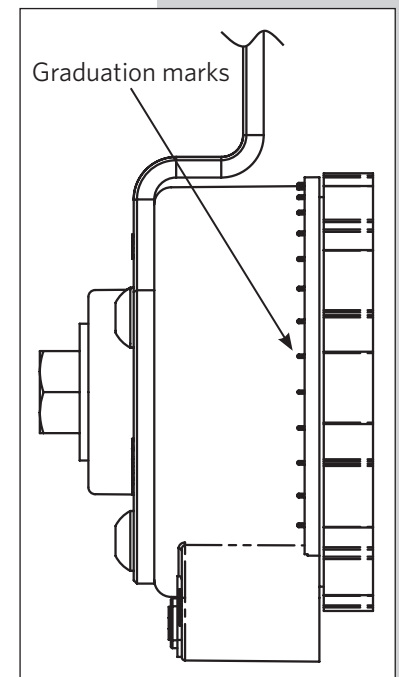

Fig. 3
9. The housing of the tensioner has equally spaced graduation marks (every 10°) that can be used to establish rotational degrees and resulting tensioner force. See Fig. 3. For reference you may want to place a mark on or near the desired graduation mark.